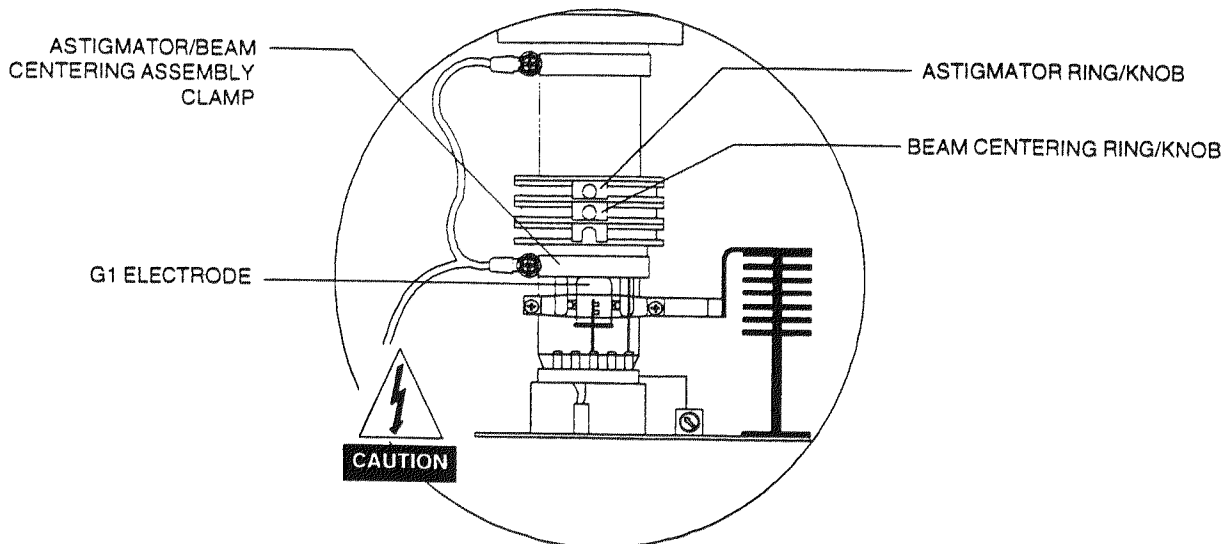
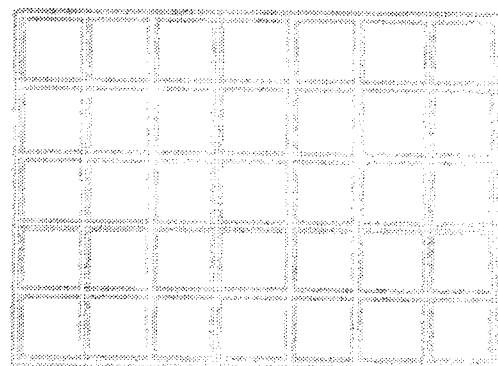

FIGURE 10-42. Astigmator/Beam centering assembly position
FIGURE 10-43.
- STEP 1. Check and position the astigmator/beam centering assembly. The clamp used for securing the assembly should be in-line with the end of the G1 electrode located inside and at the rear of the CRT neck. See Figure 10-42.
- ☐ Adjust the beam center ring, closest to the CRT amplifier (Figure 10-42), by rotating and turning the knob until the bright vertical and horizontal lines in the crosshatch pattern are centered within the de-focused crosshatch pattern or halo. See Figure 10-43.